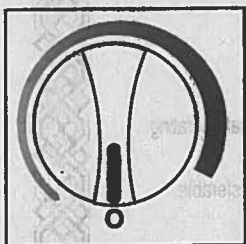

Fig.14
- To turn off the freezer (no cooling) rotate the control knob to the "0" (off) position. See Fig.14